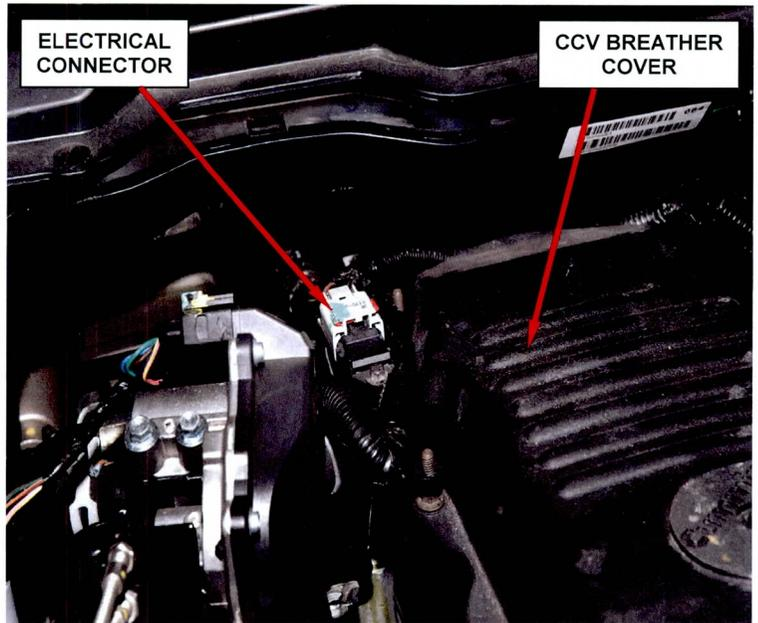

Figure 2 – Electrical Connector
7. Disconnect the electrical connector at the right rear corner of the Closed Crankcase Ventilation (CCV) breather cover from the engine wiring harness (Figure 2).